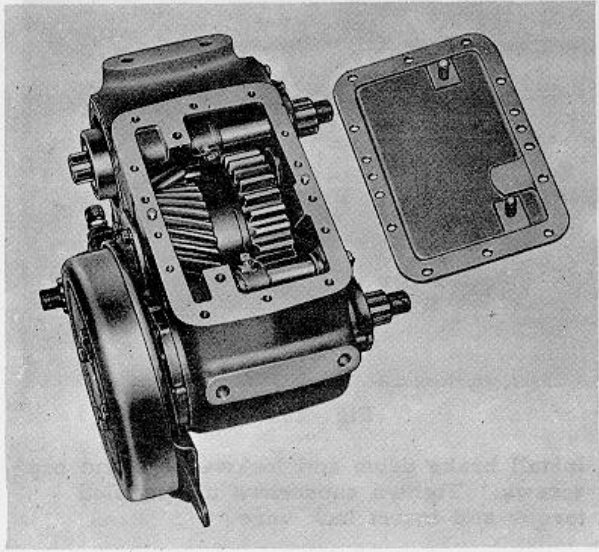

Fig. 42.
41. Slide range shift shaft through fork. Install set screw, tighten and lock wire to shift fork (Fig. 42).